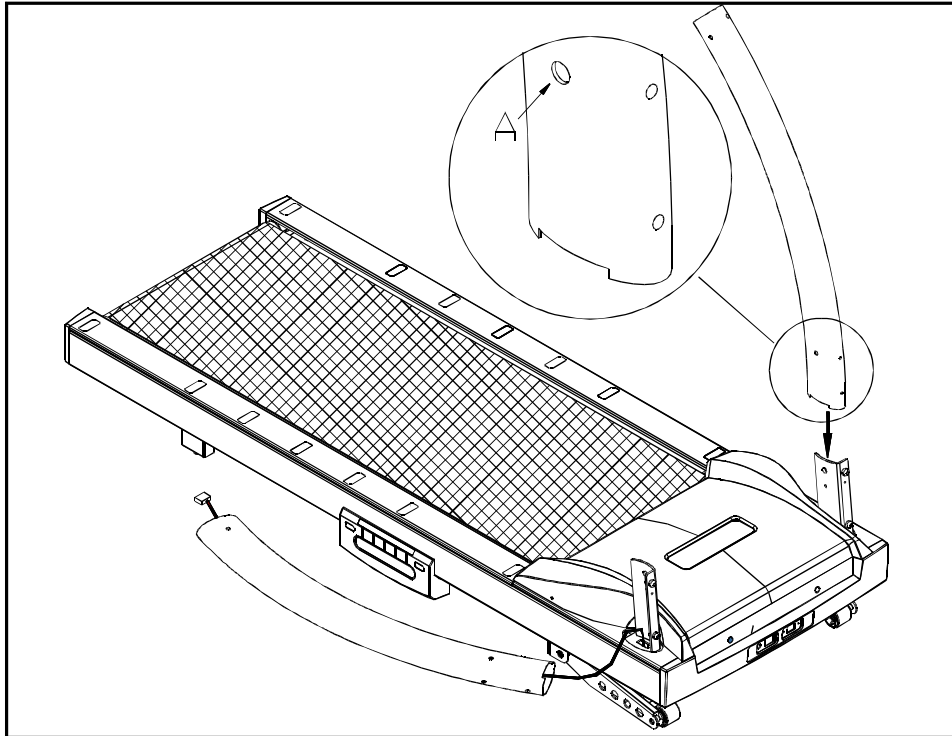

Fig.3
3. The necessary screws are attached onto support bracket. Please remove the fasteners before you assemble upright posts. Insert the left upright post into the support bracket on the left side of treadmill. The hole A should face inside. Place the ribbon cable through the right upright post, then insert right upright post into the support bracket. (see Fig.3)